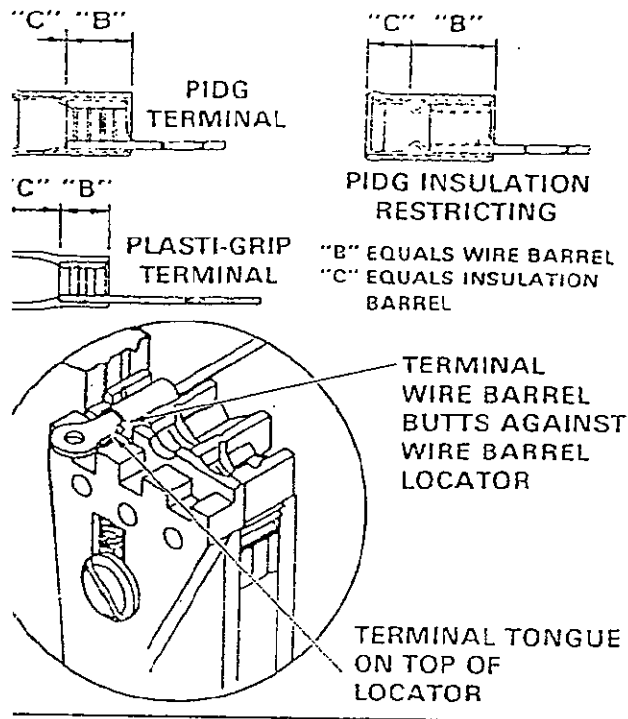
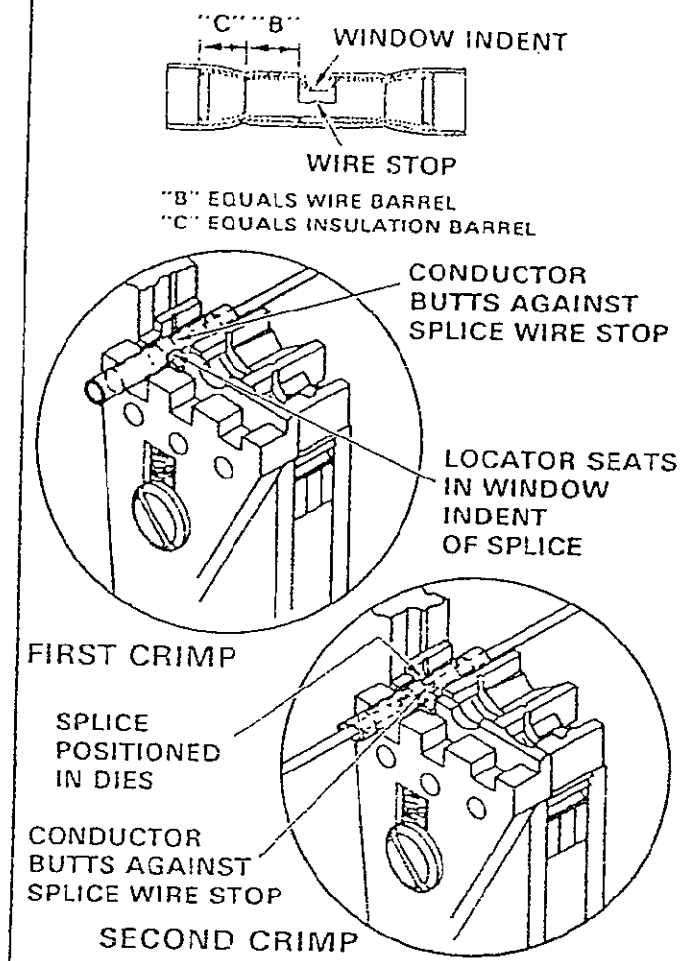

Fig. I-2
Fig. I-3
2. Place terminal (or splice) in dies as shown in Figure I-2 (or Figure I-3).
4. Insert properly stripped wire into terminal (or splice) wire barrel "B" as shown in Figure I-2 (or Figure I-3).
6. To crimp other half of splice, remove it and reposition uncrimped half in dies as shown in Figure I-3. Follow same procedure used to crimp first half of splice. (If splice cannot be turned, turn tool around.)